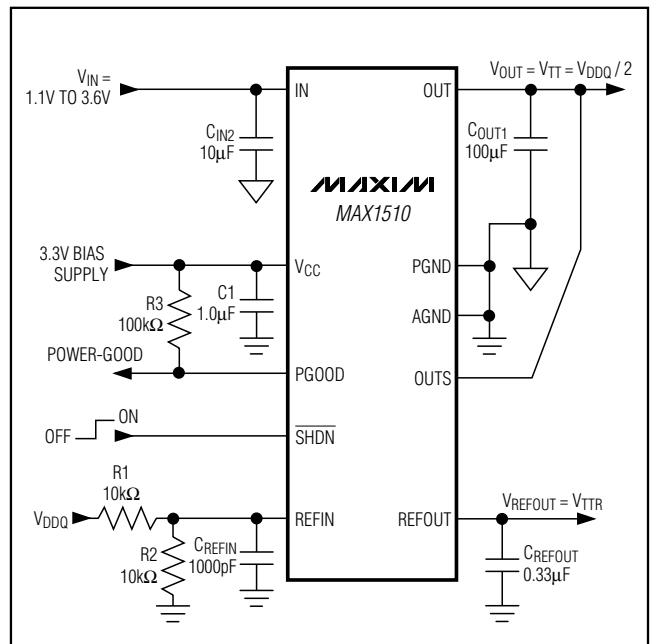

Figure 1. Standard Application Circuit
(V_{IN} = 1.8V, V_{CC} = 3.3V, V_{REFIN} = V_{OUTS} = 1.25V, $\overline{\text{SHDN}}$ = V_{CC}, circuit of Figure 1, T_A = -40°C to +85°C, unless otherwise noted. Typical values are at T_A = +25°C.) (Note 1)
($V_{IN} = 1.8V$, $V_{CC} = 3.3V$, $V_{REFIN} = V_{OUTS} = 1.25V$, $\overline{SHDN} = V_{CC}$, circuit of Figure 1, $T_A = -40^{\circ}C$ to $+85^{\circ}C$, unless otherwise noted. Typical values are at $T_A = +25^{\circ}C$.) (Note 1)
(Circuit of Figure 1. $T_A = +25^\circ\text{C}$, unless otherwise noted.)
The MAX1510 is a low-voltage, low-dropout DDR termination linear regulator with an external bias supply input and a buffered reference output (see Figures 1 and 2). V_{CC} is powered by a 2.7V to 3.6V supply that is commonly available in laptop and desktop computers. The 3.3V bias supply drives the gate of the internal pass transistor, while a lower voltage input at the drain of the transistor (IN) is regulated to provide V_{OUT}. By using separate bias and power inputs, the MAX1510 can drive an n-channel high-side MOSFET and use a lower input voltage to provide better efficiency.
The MAX1510 regulates OUTS to the voltage set at REFIN, making the MAX1510 ideal for memory applications where the termination supply must track the supply voltage. Typically, REFIN is set by an external resistive voltage-divider connected to the memory supply (V_{DDQ}) as shown in Figure 1.